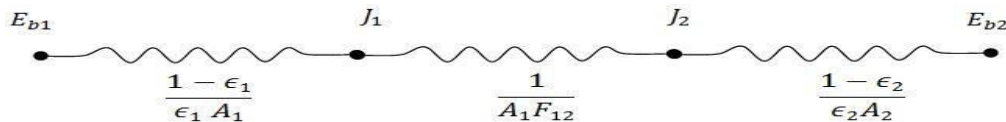

Fig. 6.10 Electrical analogy of radiation heat transfer between two surfaces
- Radiation heat transfer can be represented by electrical network, consisting of two surface resistances of two radiating bodies and the space resistance between them as shown in figure 6.10.